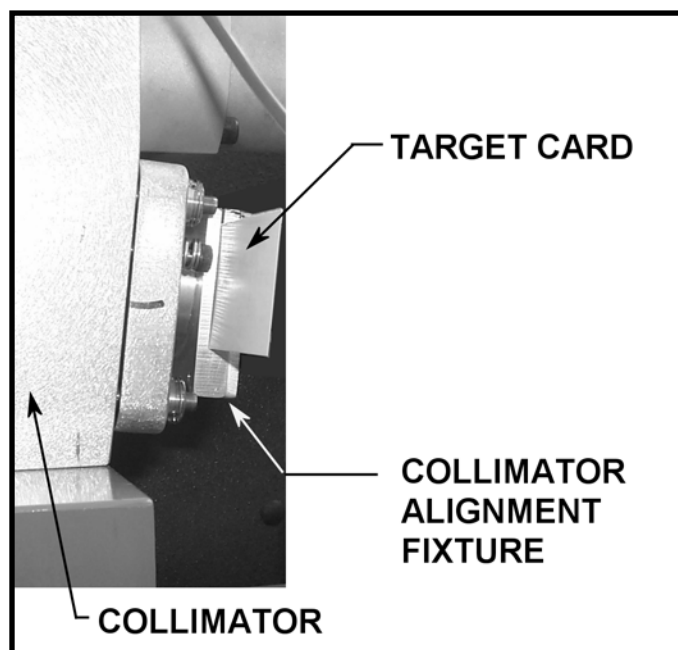

FIGURE 9-18 Second collimator mirror alignment
8. Repeat Steps 1 through 7 with the alignment fixture in the second collimator mirror mount (See Figure 9-18). Make steering adjustments to the first collimator mirror. Label the final card "2C" and keep for reference.